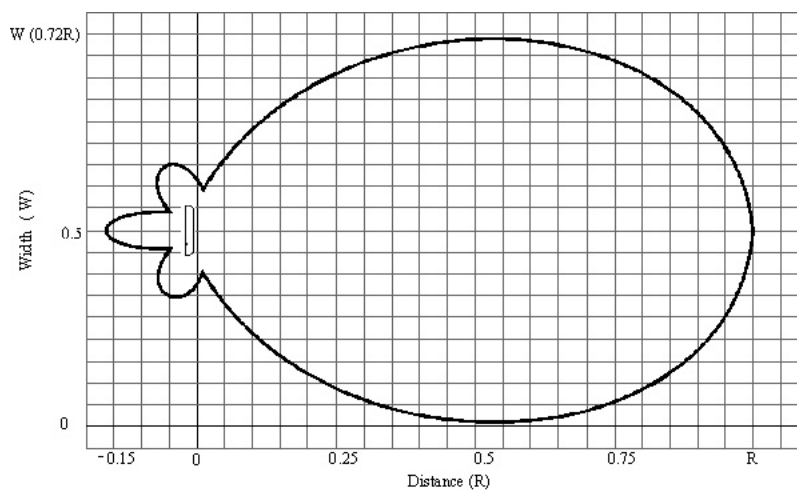

Figure 1. Effective RF field for tags with LR-2000 reader.
The reader's effective RF field, in which the long-range credentials can be detected, is maximized when there is no material in front of the reader or immediately to the sides of the reader. See the LR-2000 Effective RF Field diagram (Figure 1 on page 4).
- By moving the test tag in the space in front of the LR-2000 reader, the tester can map the extent of the effective RF field that is plotted in Figure 1. The reading distance should extend from the reader's face to the guaranteed 10 feet or 15 feet with the test tags. The maximum diameter of the field's cross-section, at half of the maximum range, should be about 6 feet.